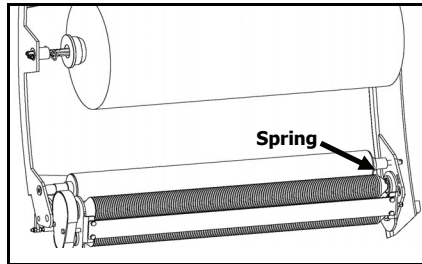

Figure 7.4 Stretcher spring
**Note:** If the plastic film breaks often during hot weather, detach the stretcher spring (Figure 7.4).